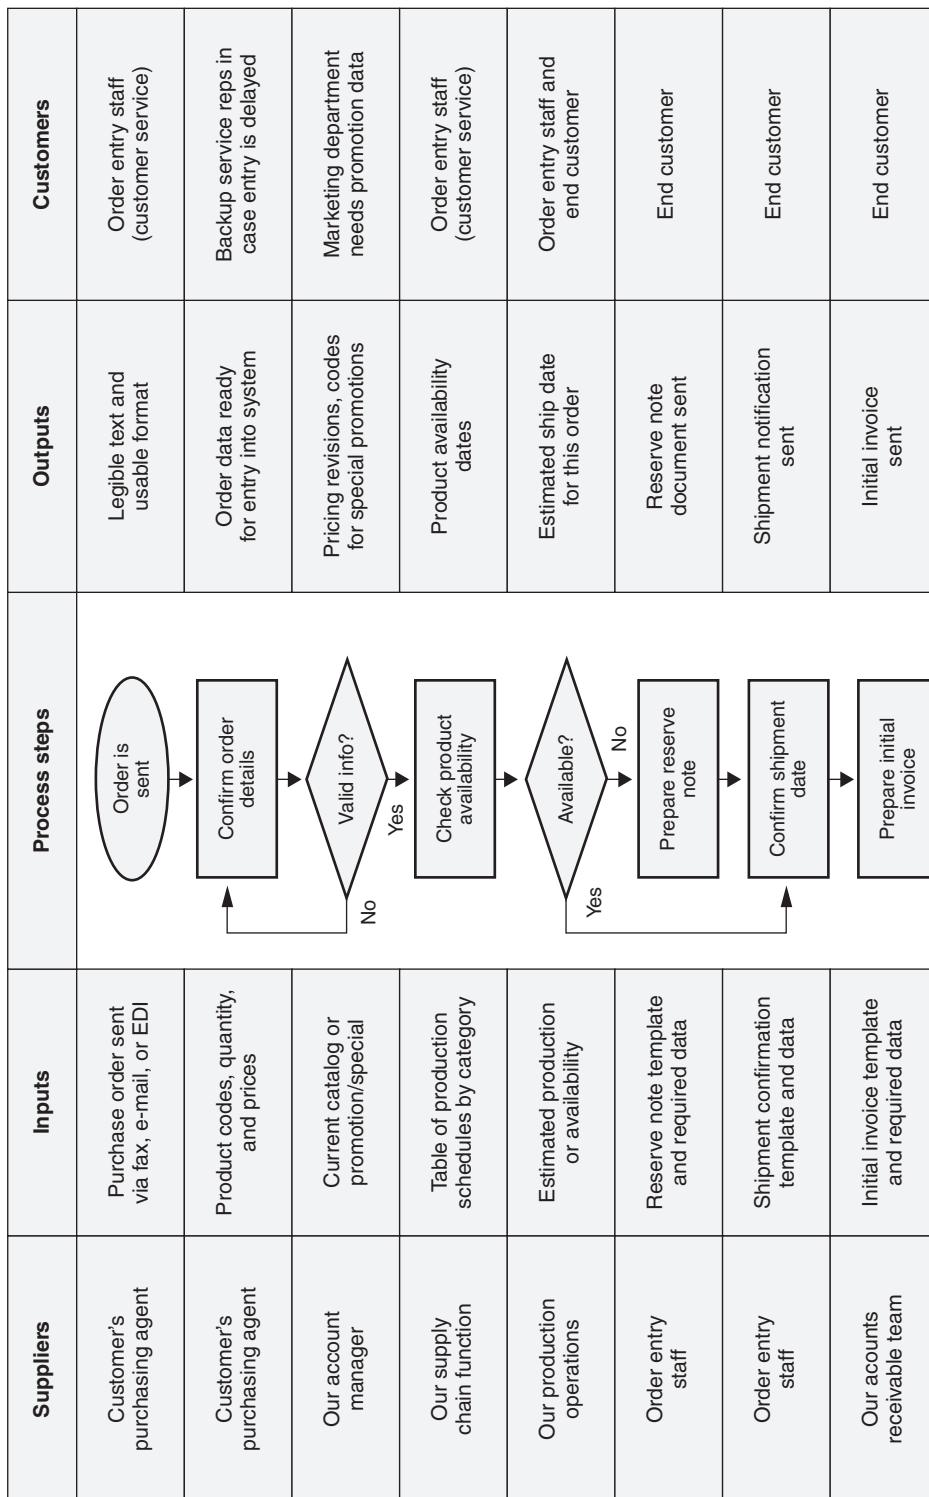

Figure 2.5 Process map in SIPOC format—the order entry part of a customer service function.
- *Process steps.* A process step is the activity in the process that is currently being conducted. In the example in Figure 2.5, there are seven steps that the order entry agent must perform once the order is sent. For each of those process steps, there is a set of inputs and a set of outputs. Every step in the process must be analyzed in this way to find the causes of defects and variation. *If a step in the process is analyzed and found to provide no significant output that is important to any internal or external customer, then that process step really needs to be considered for elimination.*
- *Suppliers.* These are the people, departments, vendors, or other functions that provide the tools you need to do the job, including instructions, information, and raw materials—in short, everything that is in the “Inputs” column in Figure 2.5.